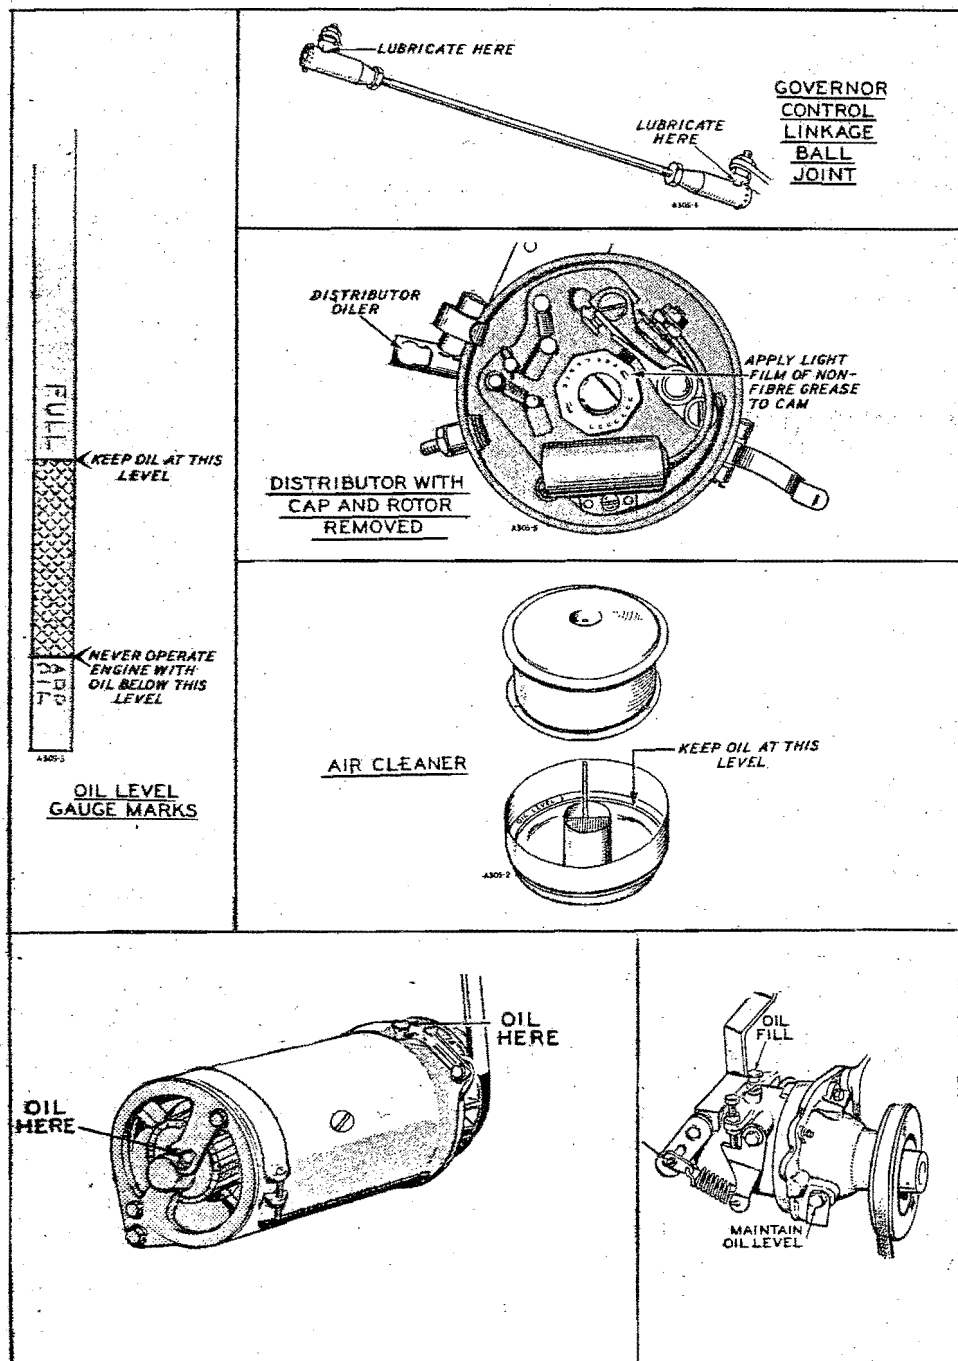

Fig. 8 Lubrication Points
**GOVERNOR.** - Check the governor oil level. Remove the oil level plug (Fig. 8) and add oil, of the same SAE number as used in the crankcase, until the oil reaches the plug level. Do not overfill.